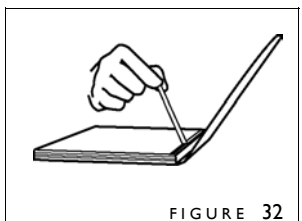

FIGURE 32
6. Release the clamp by bringing the Lever to the upright position. Remove the partially bound book and turn over. On the back side remove the thin release paper (figure 32).